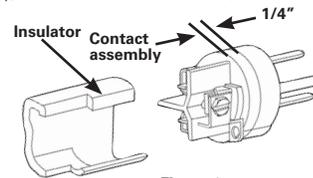

Figure 6
- Slide insulator/cord clamp down cord and position over terminals. The insulator has two (2) slots that engage with the arc barrier walls and provide proper orientation. Take care to align insulator properly, then slide insulator to within 1/4" of surface of contact assembly (see Figure 6).